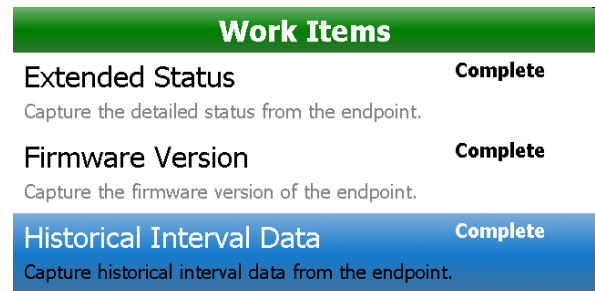

Figure 51: Data collection "Complete"
*"Complete" displays when the historical interval data collection is finished and the **View** button becomes active. See Figure 51.*